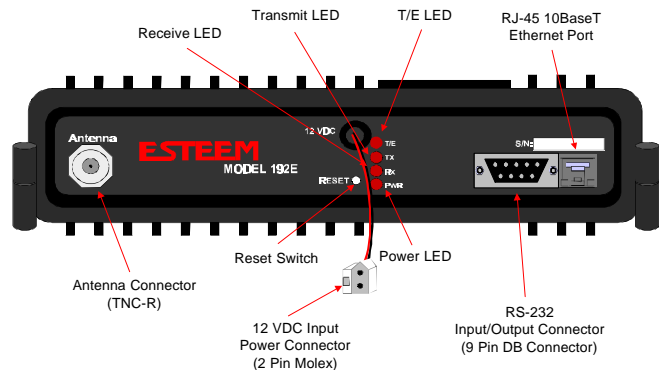

Figure 4: Front Panel Description
Figure 4 contains a description of the ESTeem Model 192E front panel.
1. Connect the antenna to the antenna port on the ESTeem Model 192E (Figure 4).
2. Connect the Ethernet cable from the wired 10BaseT Ethernet LAN to the Ethernet connector on the front of the ESTeem (Figure 4).